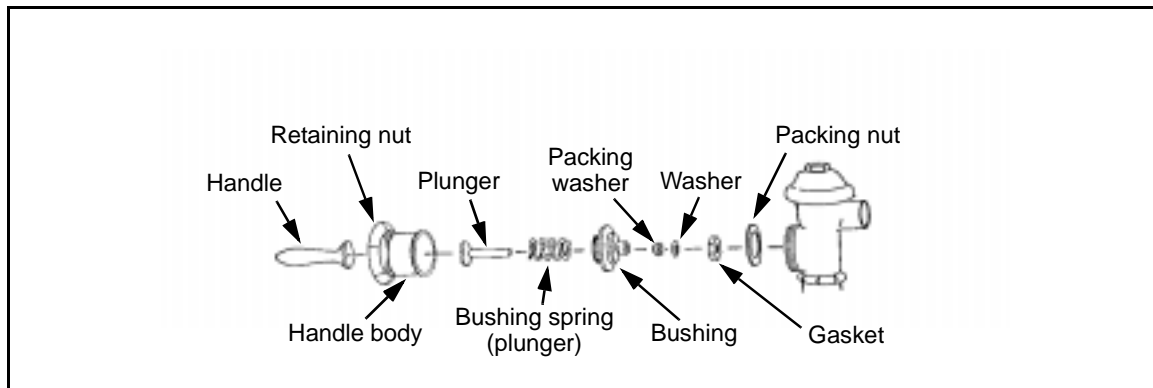

Figure 4-9. Flushometer Handle Repair
- 4-20. Use the steps below to repair handles (*Figure 4-9, page 4-10*) when there is a—